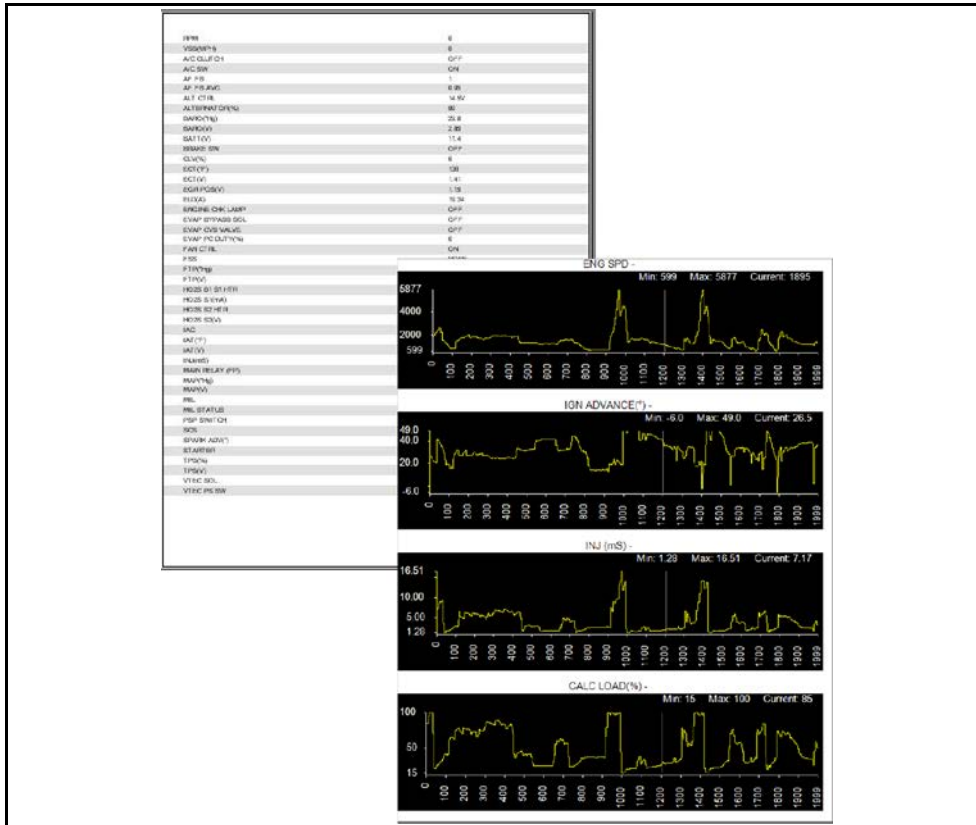

Figure 11-9 Print preview window (text list and graphs examples)
- b. If Print Preview was selected, a preview window opens. Select the printer icon (Figure 11-9) to send the file to the printer.